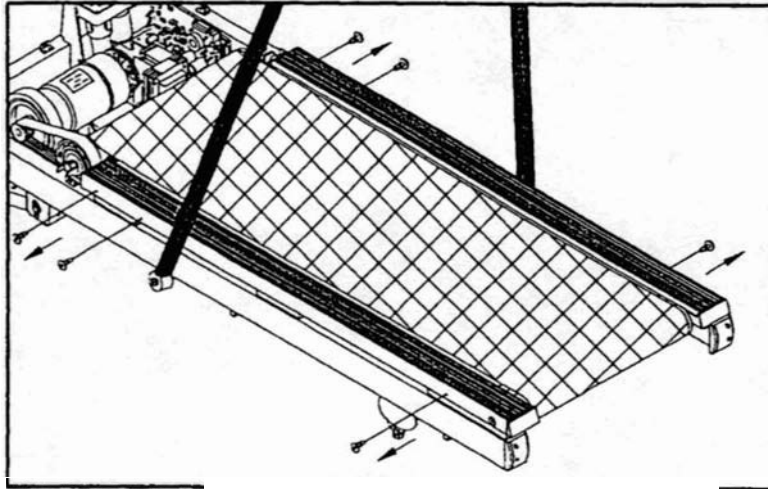

Fig.1
1. Remove the motor shroud, and unscrew all bolts securing staging platform. (see Fig.1)